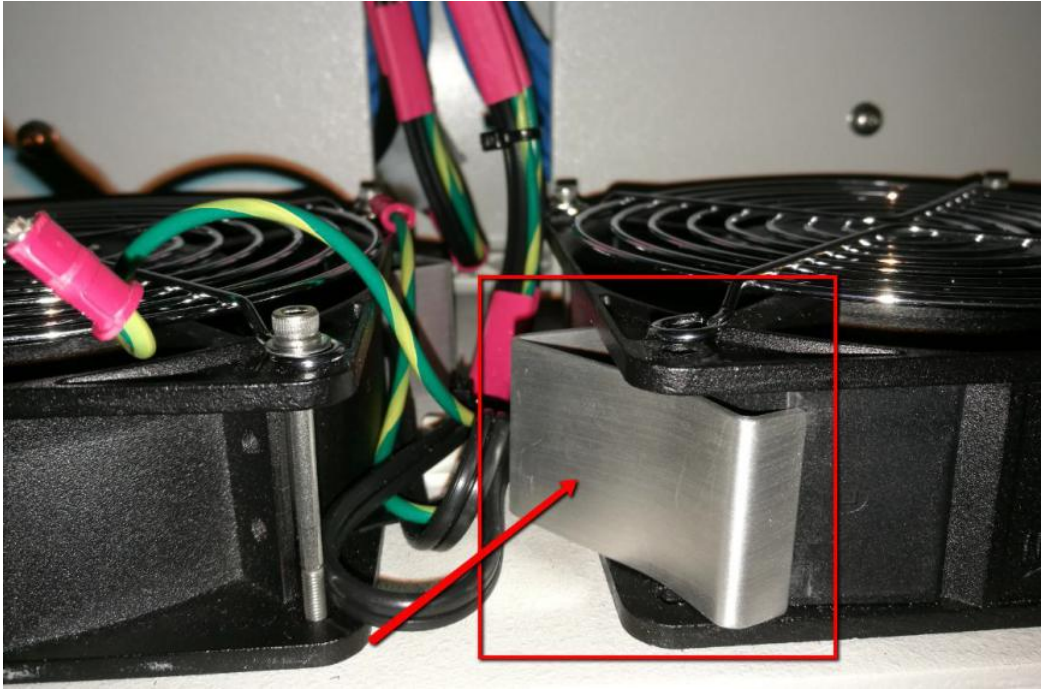

Figure 3 Metal frame removal
5. Remove Metal Frame as shown in Figure 3.